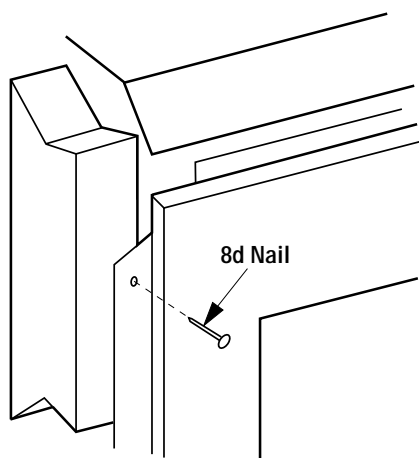

Figure 17
Step 4. Fireplace should be secured to side framing members using the full length nailing tabs at the top and bottom of the fireplace front face. Use 8d nails (Figure 17).